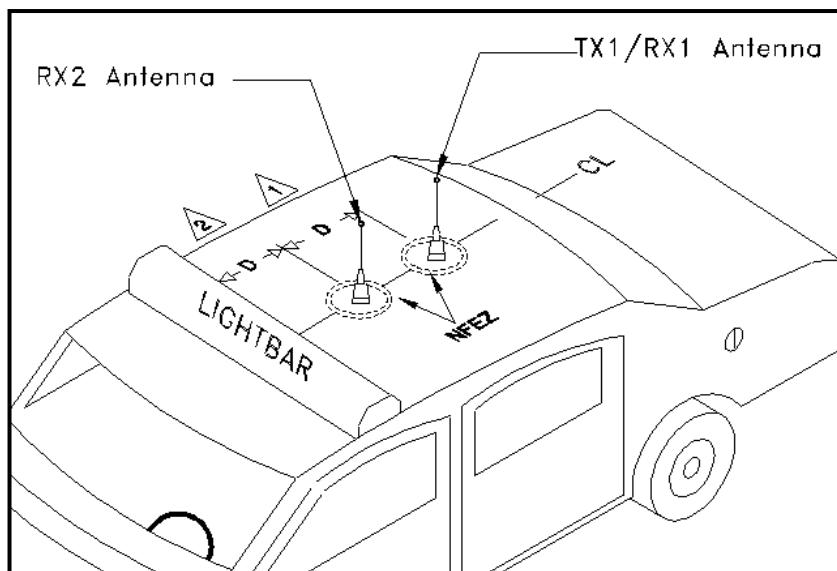

Figure 16: Antenna Distance Configuration
Step 1 Install antennas (see Figure 16).
Figure 16 represents the recommended front-to-rear antenna installation. The receiver antenna (RX2) should be the antenna nearest to the light bar.